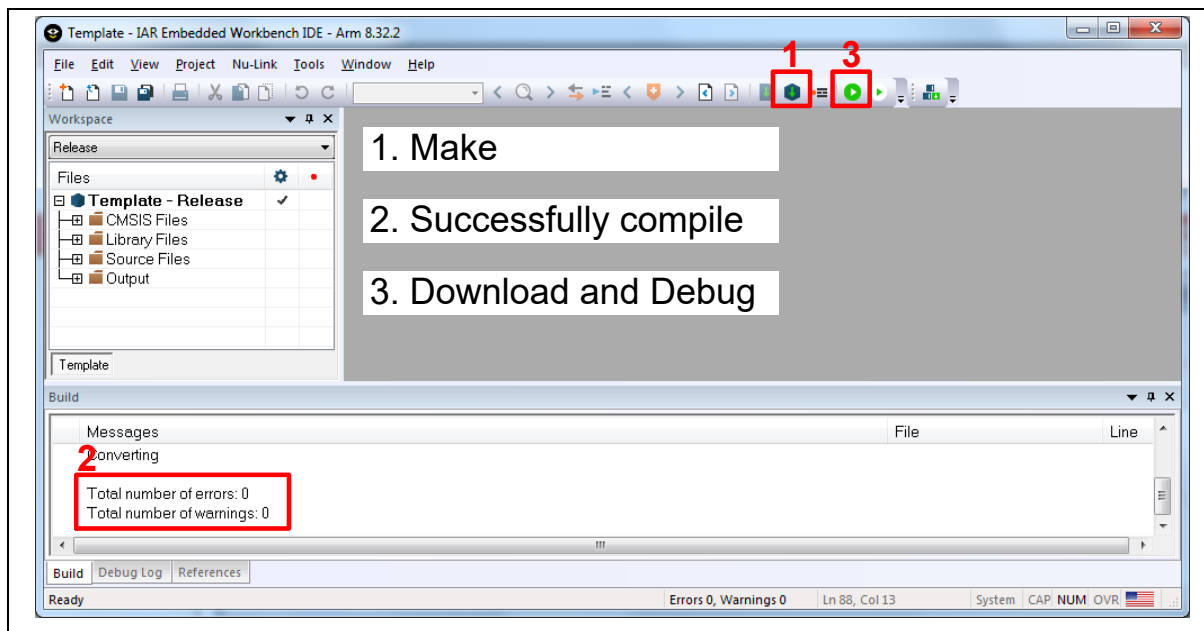

Figure 4.6-9 Compile and Download the Project
11. Make a target file as presented in Figure 4.6-9. After successfully compiling the project, download code to the Flash memory and enter debug mode.